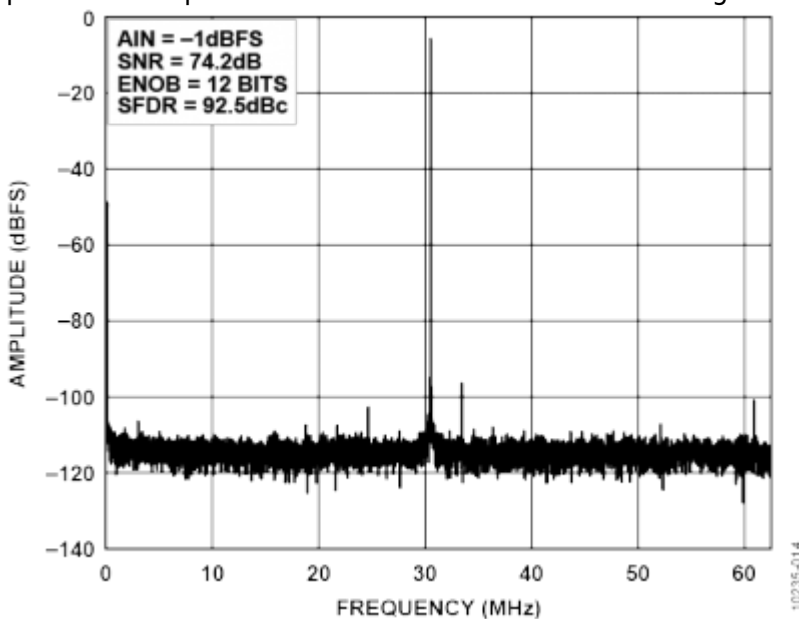

Figure 13. Typical FFT, AD9253
3. Click the disk icon within the **VisualAnalog Graph - AD9253 FFT** window to save the performance plot data as a .csv formatted file. See Figure 13 for an example.